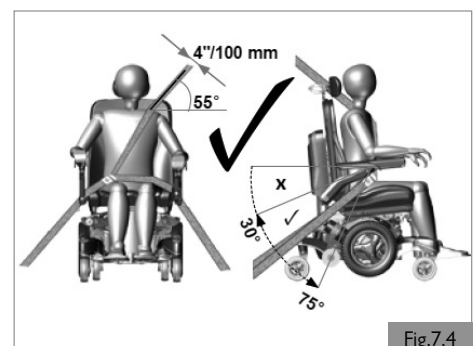
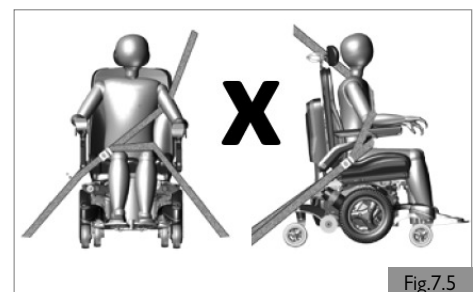

Fig.7.4
Fig.7.5
- Restraints should be mounted to the appropriate vehicle pillar and should not be held away from the body by wheelchair components such as armrest or wheels (Fig. 7.5).
- A steeper (greater) angle within the preferred zone is desirable i.e. closer to, but never exceeding 75° degrees (Fig. 7.4).
- i. The upper torso restraint belt must fit over the shoulder and across the chest as illustrated (Fig. 7.4). Restraint belts must be adjusted as tightly as possible consistent with user comfort. Do not fit restraint belt as shown in Fig. 7.5.